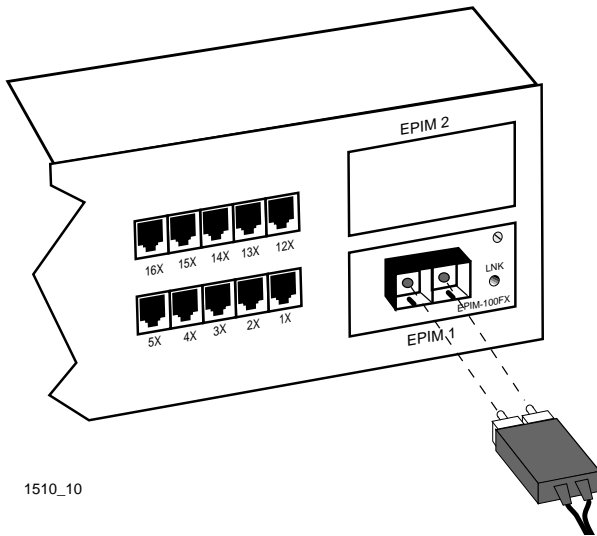

Figure 5-3 EPIM-100FX Port
The EPIM-100FX and EPIM-100FMB have an SC style network port (see Figure 5-3). Cabletron Systems supplies fiber optic cables that use SC connectors that are keyed to insure proper crossover of the transmit and receive fibers.
2. Insert one end of the SC connector into the SEH EPIM-100FX or EPIM-100FMB. See Figure 5-3.